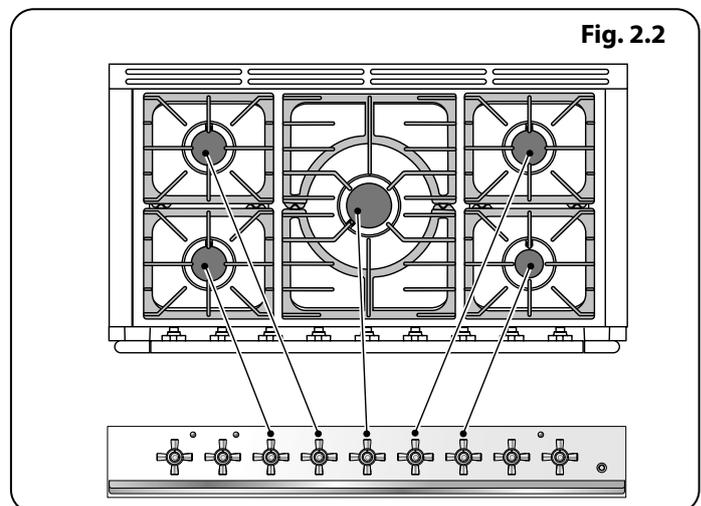

Fig. 2.2
- A. 5 gas burners including 1 wok burner (Fig. 2.2)